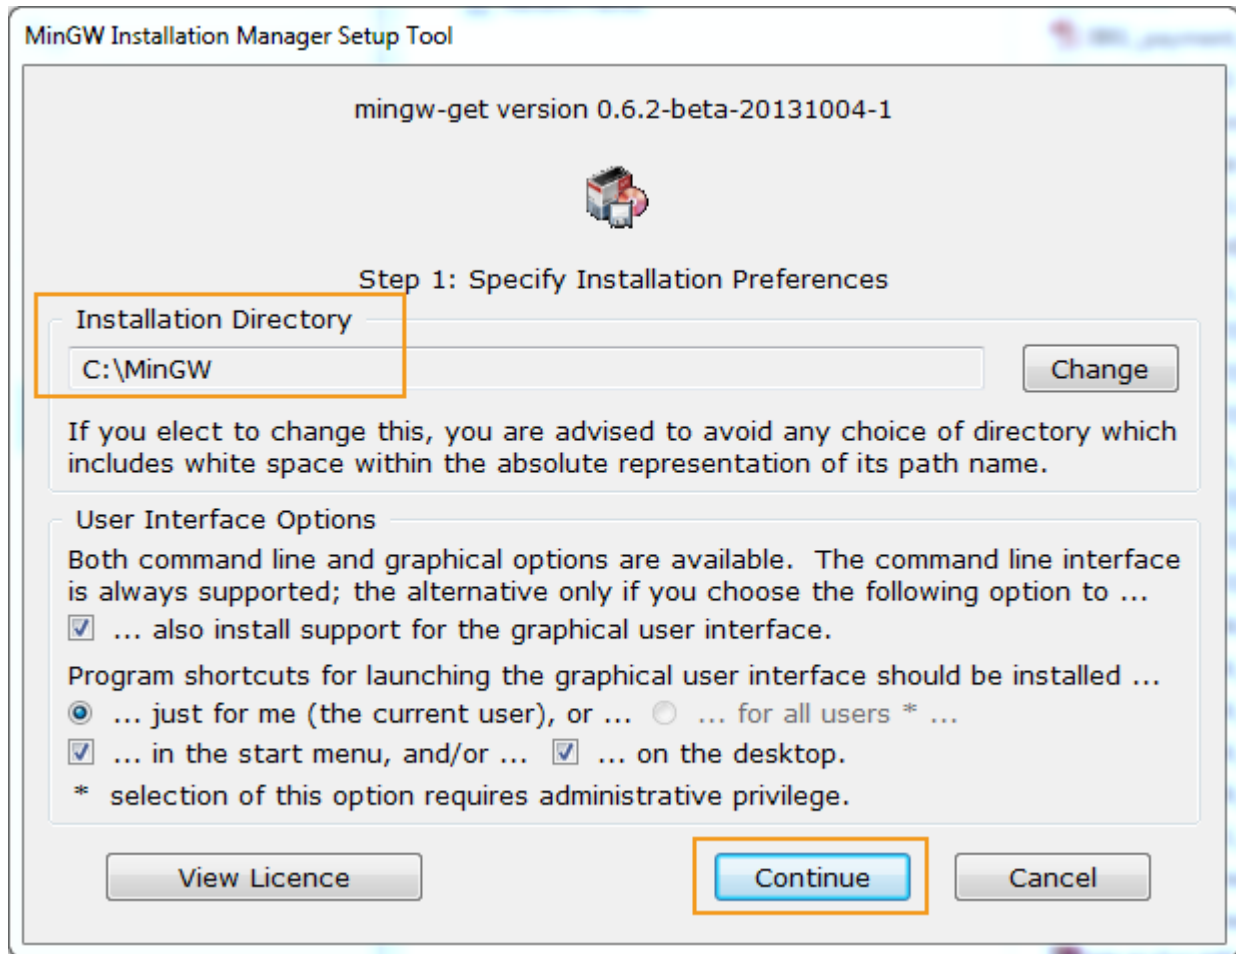

Figure 16. Keep default installation preferences
- 3) Follow the on screen instructions and keep the default settings, then click **Continue** to download the tool to C:\MinGW installation directory (see Figure 16).